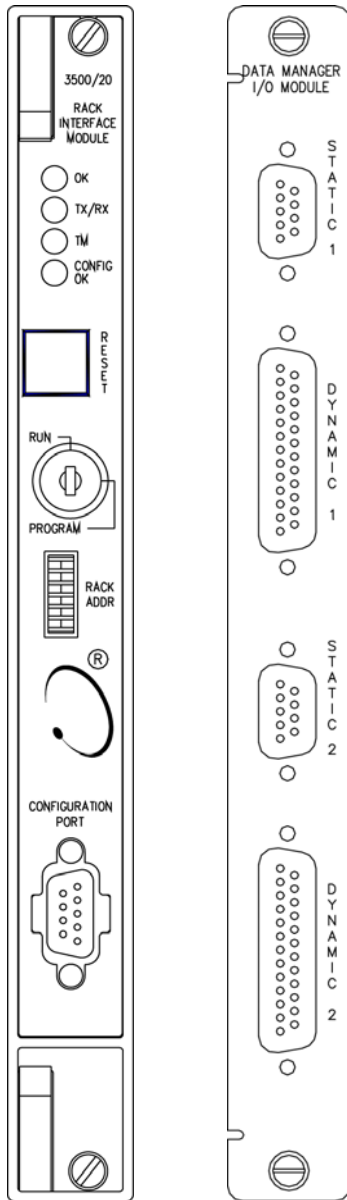
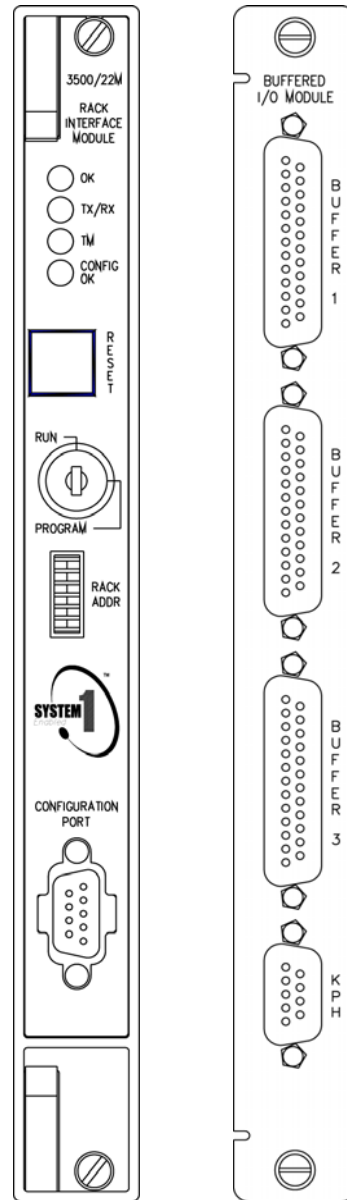

Figure 1: 3500/20 Rack Interface Module (RIM) and Data Manager I/O Module front panels
Figure 2: 3500/22M Transient Data Interface (TDI) and Buffered Signal Output Module front panels
In addition, each 3500 rack requires that either a 3500/20 Rack Interface Module (RIM) or a 3500/22M Transient Data Interface (TDI) is installed (see Figure 1 and Figure 2). These modules act as the primary interface to the rack and one of them must be installed in order to communicate with the system for configuration and the retrieval of machinery information.
- Racks with a 3500/20 Rack Interface Module (RIM) can use the optional Data Manager I/O Module (PNR: 125760-01) in order to provide access to the buffered transducer outputs from selected monitor modules via the rear of the rack (see Figure 1 and Bently Nevada 3500 system with a 3500/20 Rack Interface Module (RIM), on page 5).
- Racks with a 3500/22M Transient Data Interface (TDI) can use the optional Buffered Signal Output Module (PNR: 147364-01) in order to provide access to the buffered transducer outputs from all monitor modules via the rear of the rack (see Figure 2 and Bently Nevada 3500 system with a 3500/22M Transient Data Interface (TDI), on page 10).